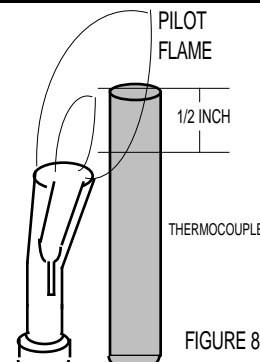

FIGURE 8
5. Depress and hold **MILLIVOLT GAS VALVE** knob until air is bled and gas flows to pilot. Press **PIEZZO IGNITOR BUTTON** (FIGURE 8) to light pilot. Continue to depress **MILLIVOLT GAS VALVE** Knob until pilot remains lit when knob is released (approximately 60 to 90 seconds).
1. Pilot flame should be steady and soft blue surrounding approximately 1/2 inch of the thermocouple tip. (FIGURE 8)
PILOT ADJUST SCREW. (FIGURE 8) Turn clockwise for less flame, counter clockwise for more flame.